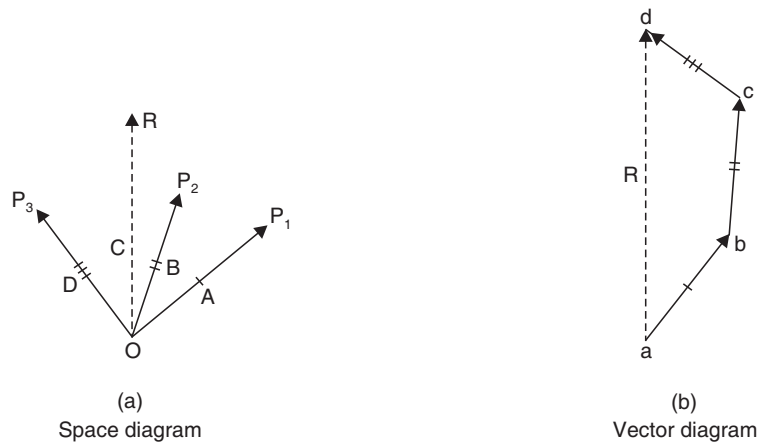

Fig. 2.17
**Resultant by graphical method.** Fig. 2.17 (a) shows the forces  $P_1$ ,  $P_2$  and  $P_3$  simultaneously acting at a particle  $O$ .